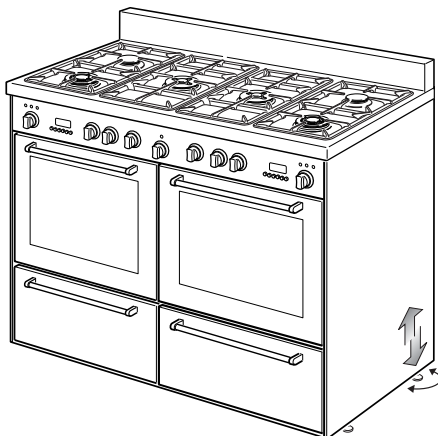

Fig. 4d Screw/unscrew the feet to get the required height
- Level the cooker by screwing or unscrewing the feet (Fig. 4d).